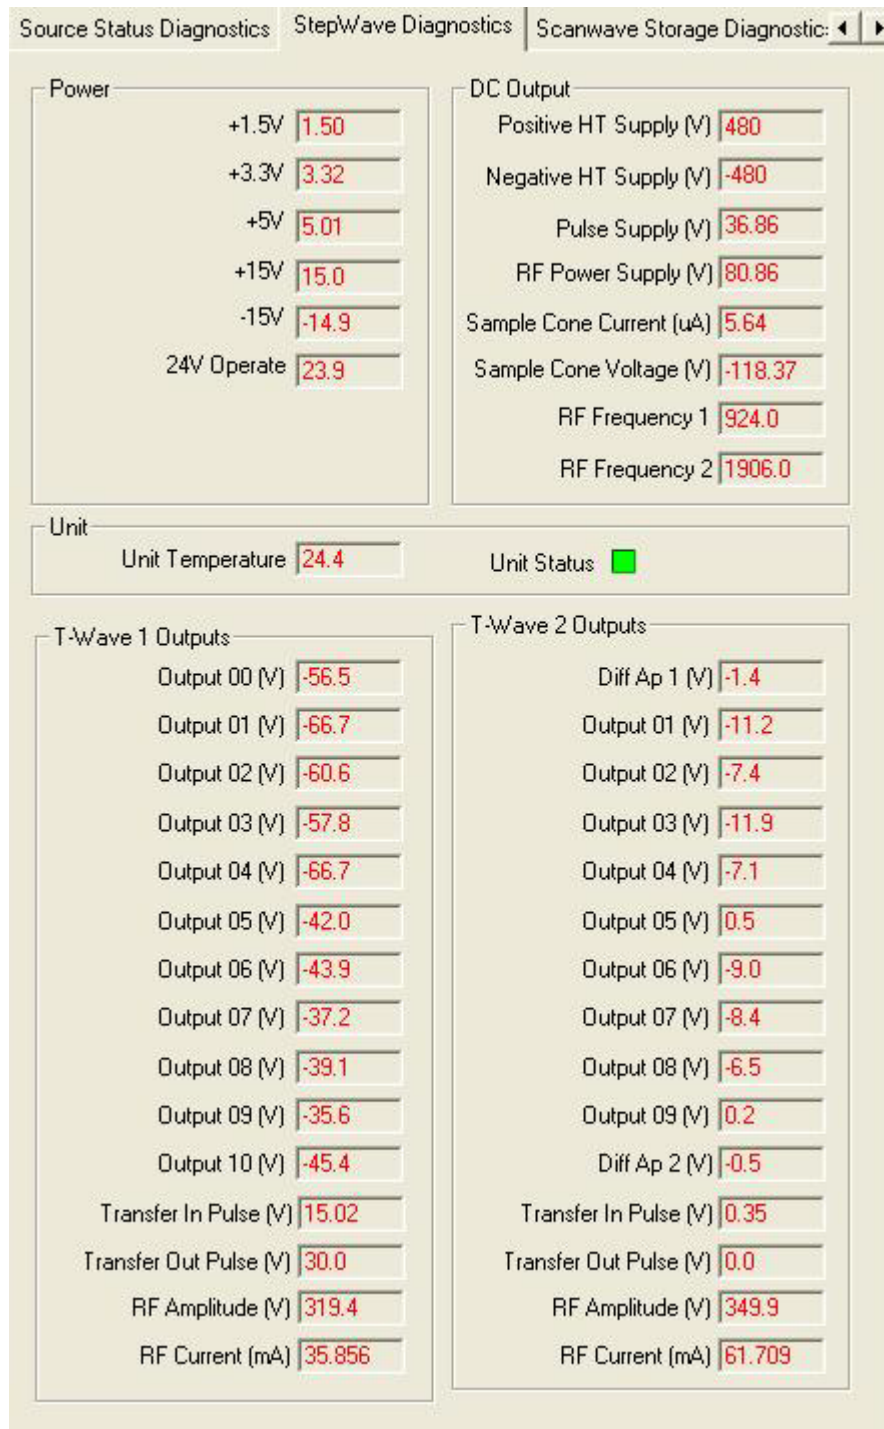

Figure 2 - StepWave Diagnostic tab
In Figure 2 outputs 00 to 04 are (on average) higher than outputs 05 to 10. This is also seen in the Transfer In Pulse (V) and Transfer Out Pulse (V) readbacks.